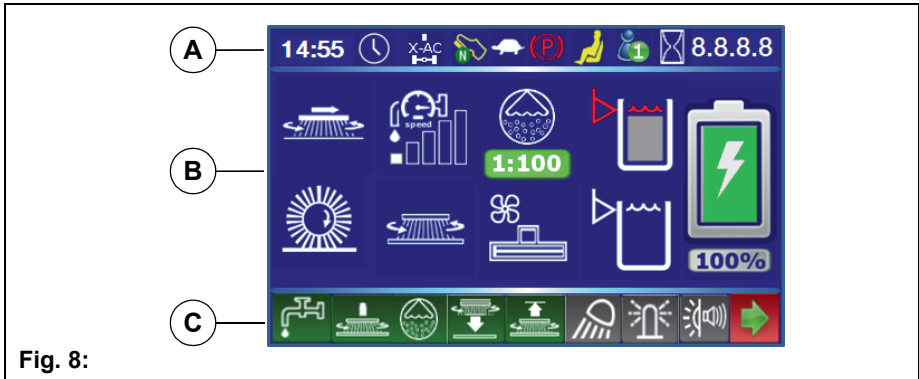

Fig. 8:
- Status level **Fig. 8-A**
- Function level **Fig. 8-B**
- Action level **Fig. 8-C**